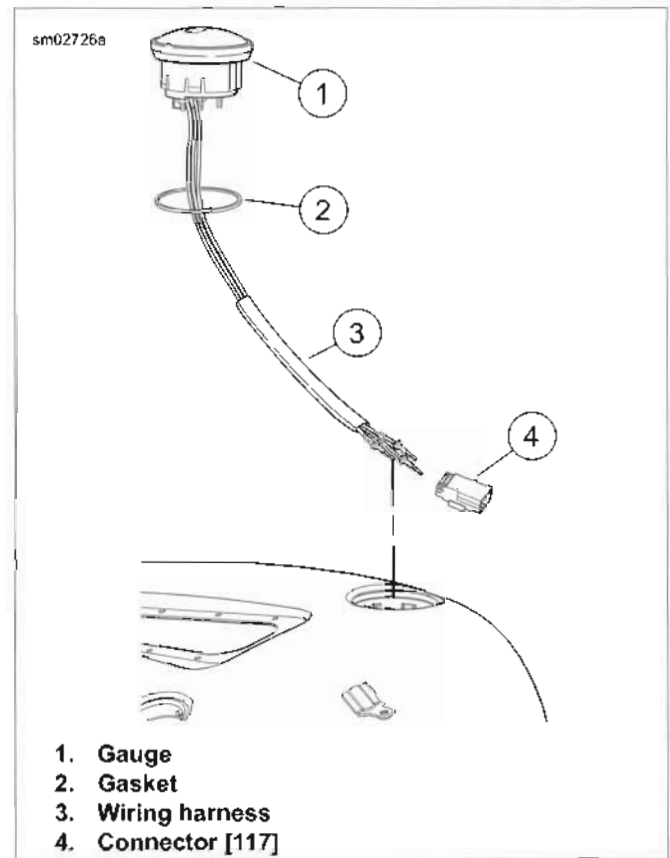
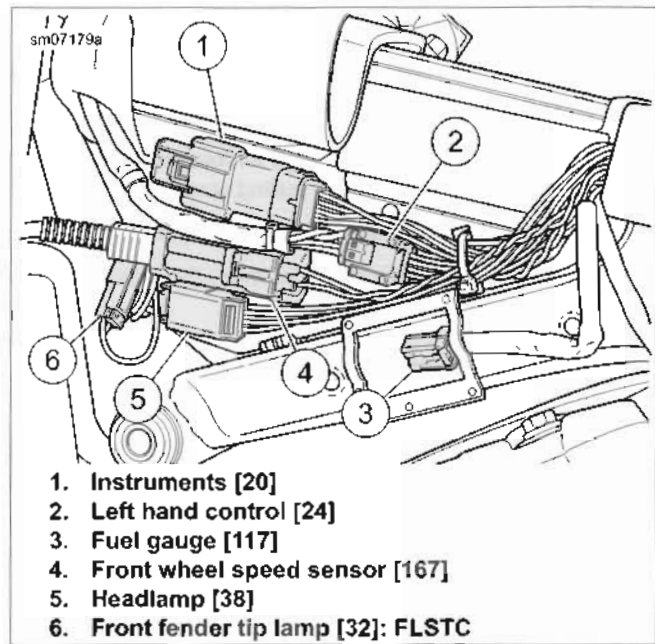

Figure 7-82. Fuel Gauge
Figure 7-83. Under Fuel Tank Left Side
- See Figure 7-82. The fuel gauge is mounted in the left fuel tank cap. Remove by gently pulling upward. Do not twist.
- Three wires attach to the bottom of the gauge (1).
4. See Figure 7-83. Disconnect fuel gauge connector [117] (3) and remove terminals. See B.1 CONNECTORS.
6. See Figure 7-82. Pull up on gauge (1). Remove gauge, gasket (2) and wiring from fuel tank. Discard gasket.
1. See Figure 7-82. Install wiring harness (3) through new gasket (2).
3. While gently pulling on wiring harness, install gauge (1) and gasket by carefully moving gauge back and forth while pushing down at the same time.
4. See Figure 7-83. Install wiring into fuel gauge connector [117] (3). Mate connector halves and secure connector into clip as shown.